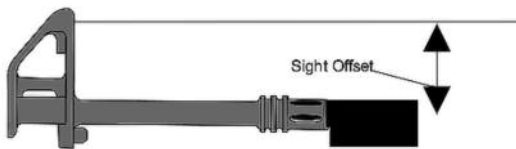

Figure 3-6
1. Measure or calculate the distance between the center of the bore and the center of the sight. If you are using an iron sight the distance will be from the center of the bore to the top of the front post. A common offset distance is 1.5 inches. See Figure 3-6.